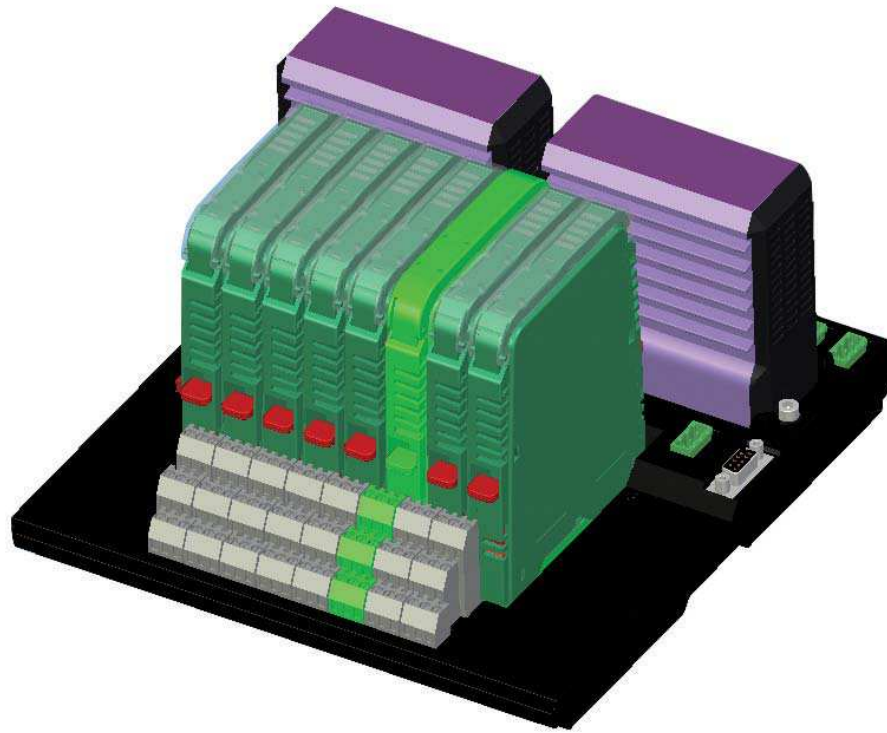

Figure 4-2. Connecting a H-System Module
1. Determine to which module and channels on the ISTA-*BP* each field wire must connect. For instance in the above Figure 4-2 the Module on slot C is highlighted.